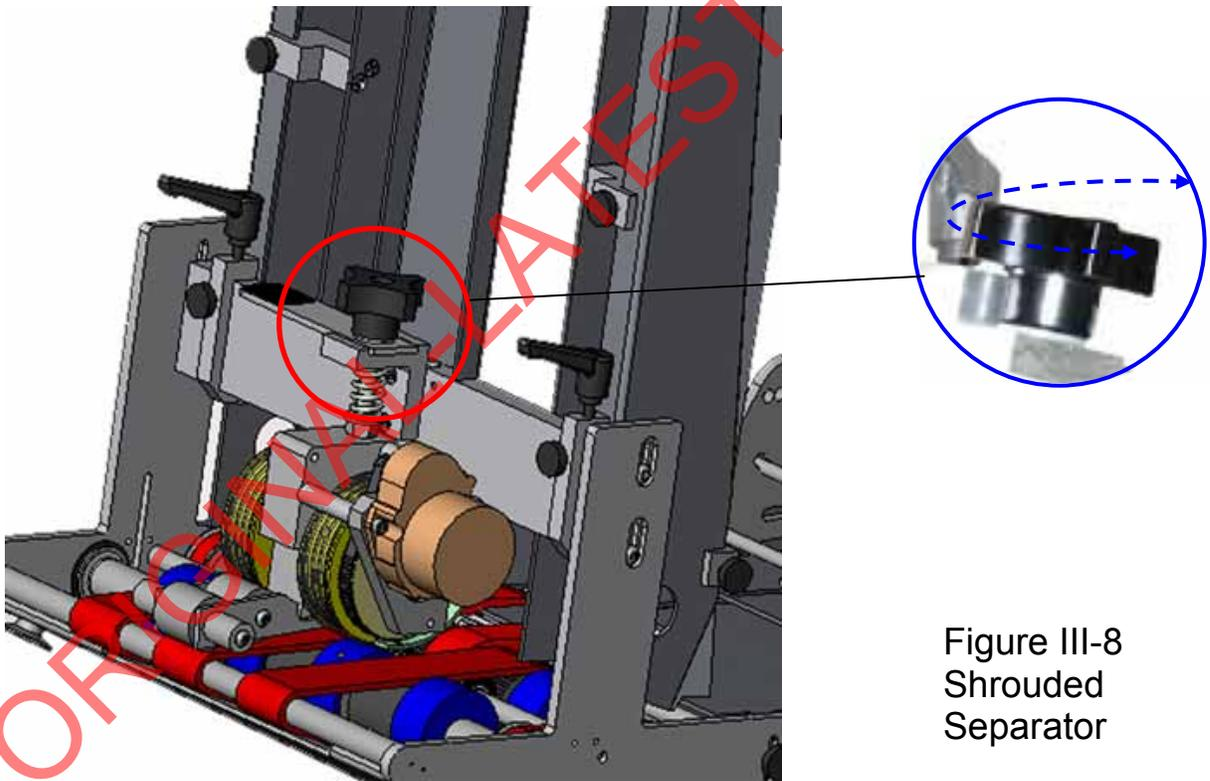

Figure III-8
Set the height of the "Separator Wheel" to allow the thickness of one (1) piece of material to pass under it. To do this, turn the adjustment knob clock wise to raise the wheel, counter clock wise to lower the wheel, see figure III-8. Note: There should be a little resistance felt by hand, when the material is directly under the separator wheels, when this is properly set. (Tip: The thinner the material is, the more critical this setting is).